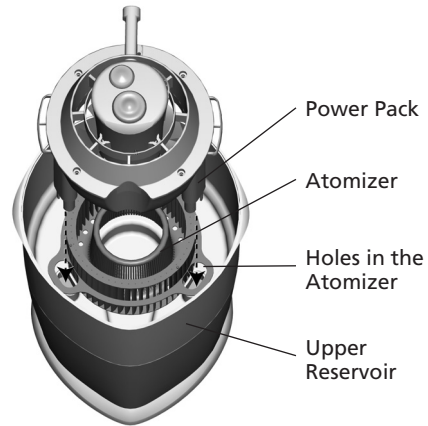

Figure 18
- Place the Power Pack into the Upper Reservoir so that the three prongs in the Power Pack go through all three holes in the Atomizer and into the three prongs in the base of the Upper Reservoir. Make sure the Power Pack is securely seated and all three prongs are in the proper position. See Figure 18.